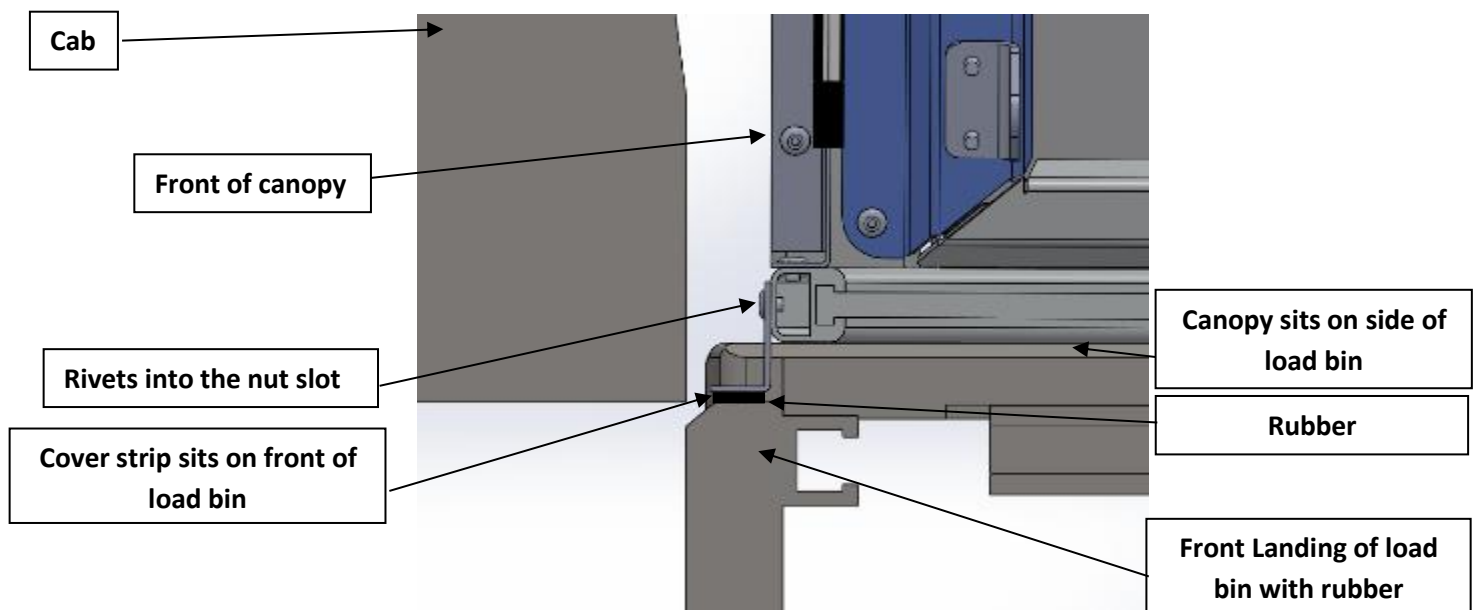

Fig 7: Section View of canopy on load bin
Step 1: Put canopy onto the vehicle. Place the front cover strip with supplied rubber strip onto the front landing of load bin so that the cover strip sits flush on the front landing as shown in Figure 7.